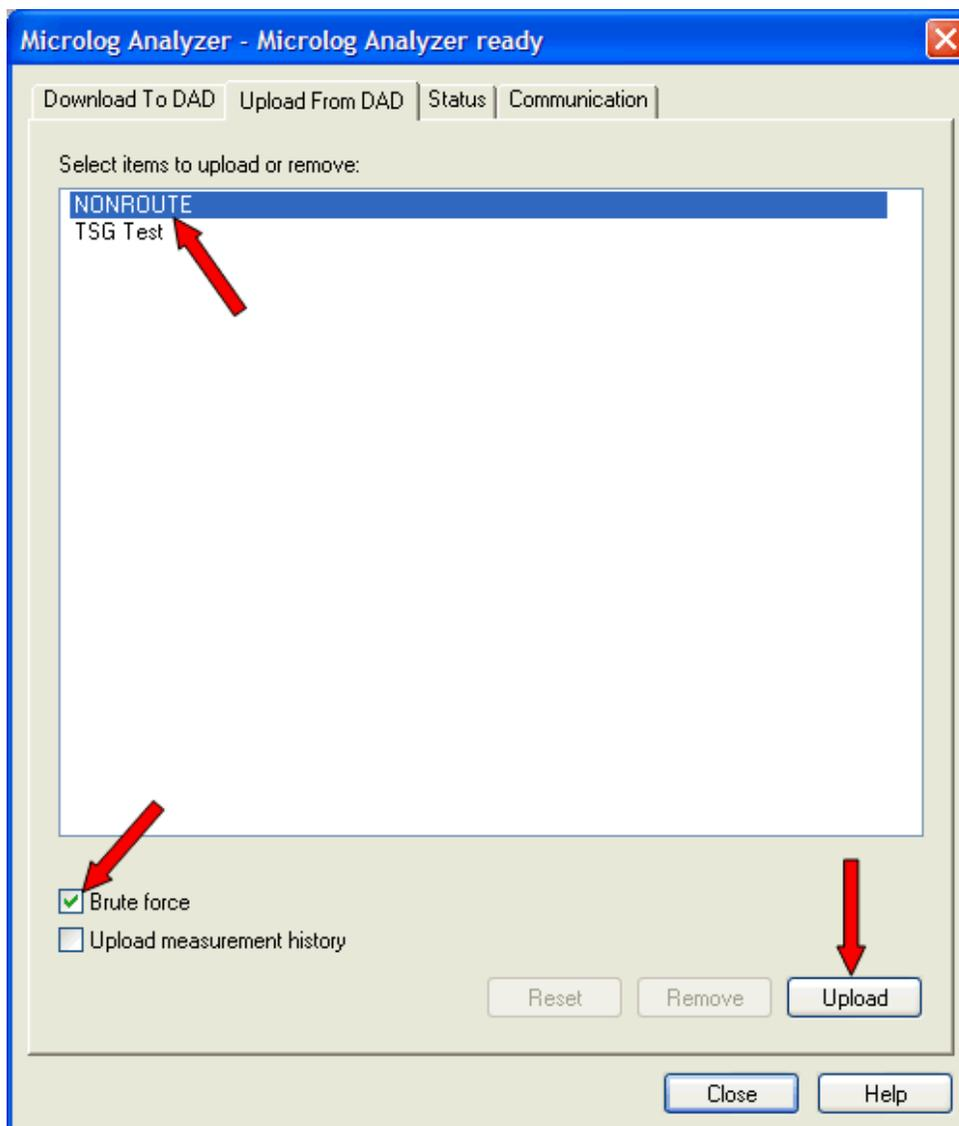

Figure 2. Microlog transfer window
- In the Microlog Analyzer transfer window, check the **Brute force** option, select **NONROUTE** from the list, and then click **Upload**. [Figure 2]